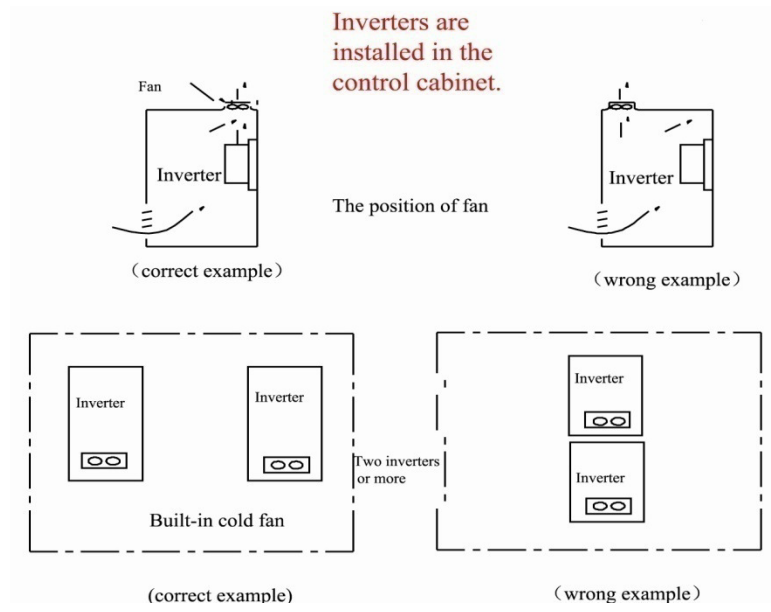

**Fig 1-1 Derating drive's output current with altitude**
- ◇ Derating must be considered when the drive is installed at high altitude, greater than 1000m. This is because the cooling effect of drive is deteriorated due to the thin air, as shown in Fig1-1 that indicates the relationship between the elevation and rated current of the drive.